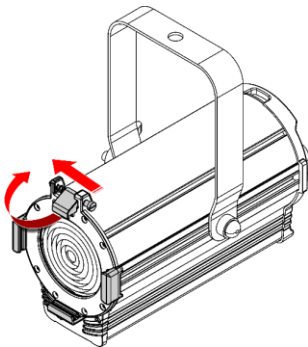

Fig. 12
- 01) Push the **spring-loaded screw (01)** and at the same time lift and flip backwards the **color frame clip (02)** (see Fig. 12).